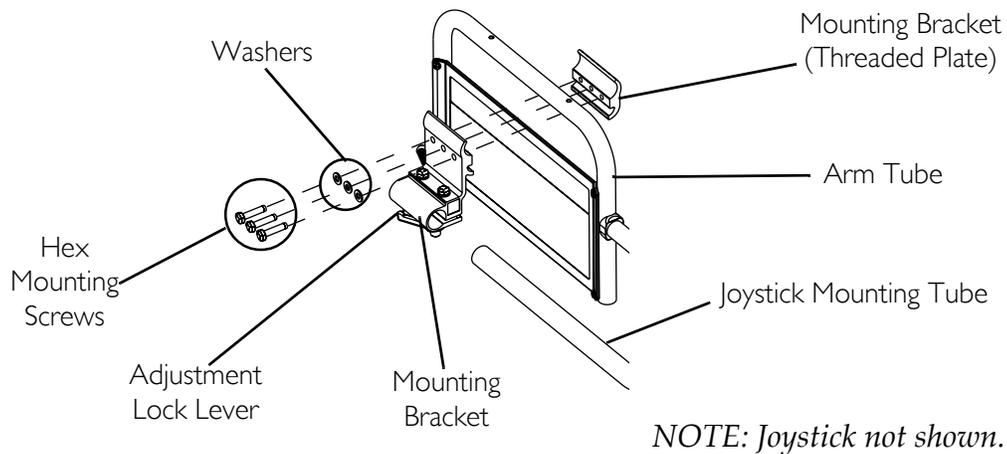

FIGURE 6.10 Repositioning the Joystick - ASBA Seat Model
NOTE: For this procedure, refer to FIGURE 6.10 on page 47.
4. Reposition mounting bracket on opposite arm tube ensuring the threaded plate of the mounting bracket is on the inside of the arm tube as shown in FIGURE 6.10.